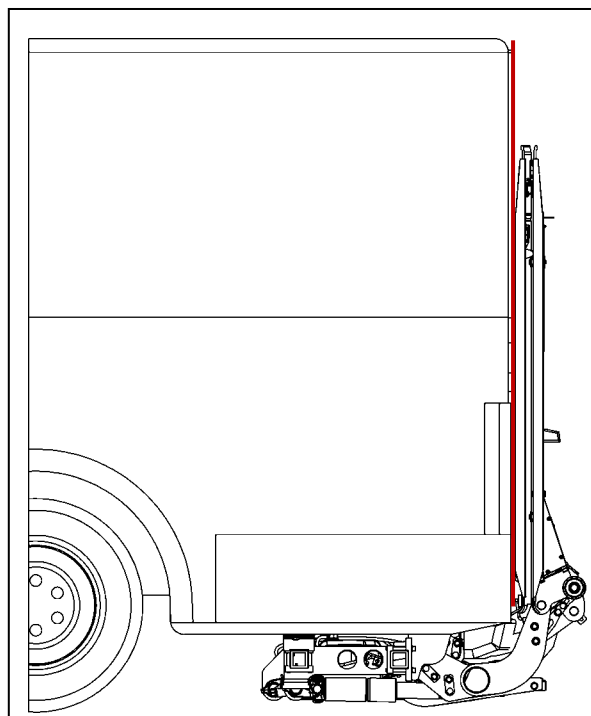

Figure 84
- When you reclose the platform, it will stand vertically behind the vehicle (see Fig. 84).